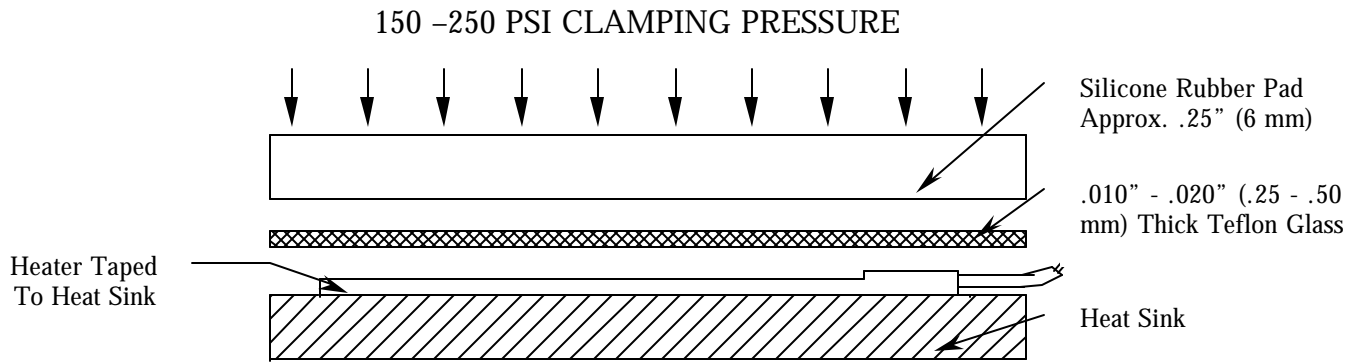

Figure 1 – CLAMPING FOR FLAT HEAT SINK
3. Apply uniform mechanical pressure (150-250 psi or 10-15 kg/sq. cm) to the heater in a direction normal to the mounting surface. Use a resilient silicone rubber pad (30-40 Shore A hardness) with a Teflon-glass slip sheet between the heater surface and pad as shown in Figure 1 (See page two).